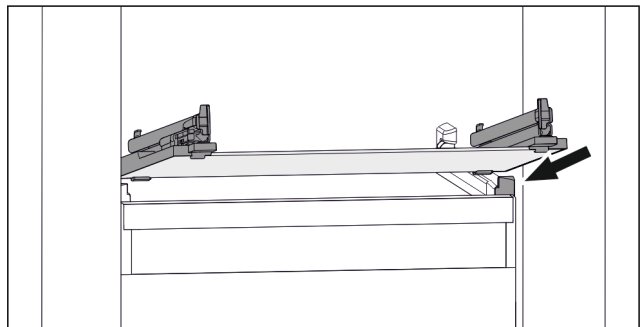

Fig. 60 Example illustration of glass shelf
- ▶ Position glass shelf at an angle behind the stoppers. (see Fig. 60)